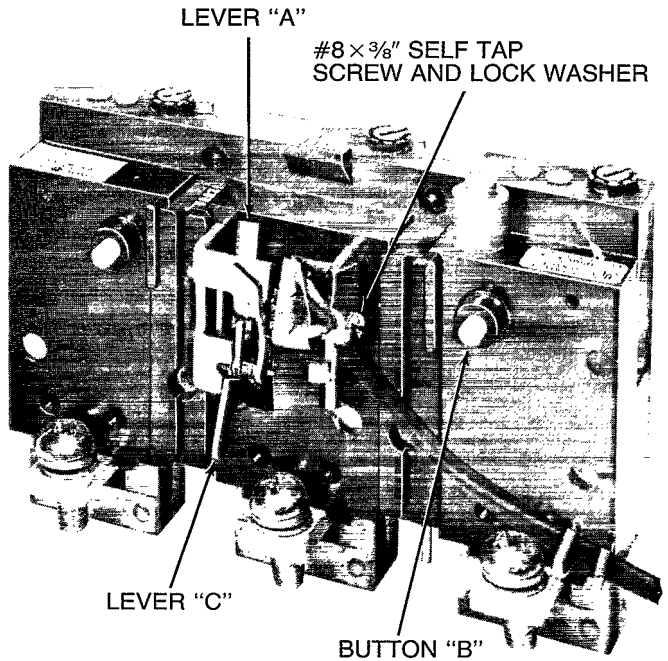

Figure 3
6. Attach new switch assembly as shown in Figure 3, using #8 x  $\frac{3}{8}$  self-tapping screw and lockwasher. Tighten to 35 lbf-inch torque.